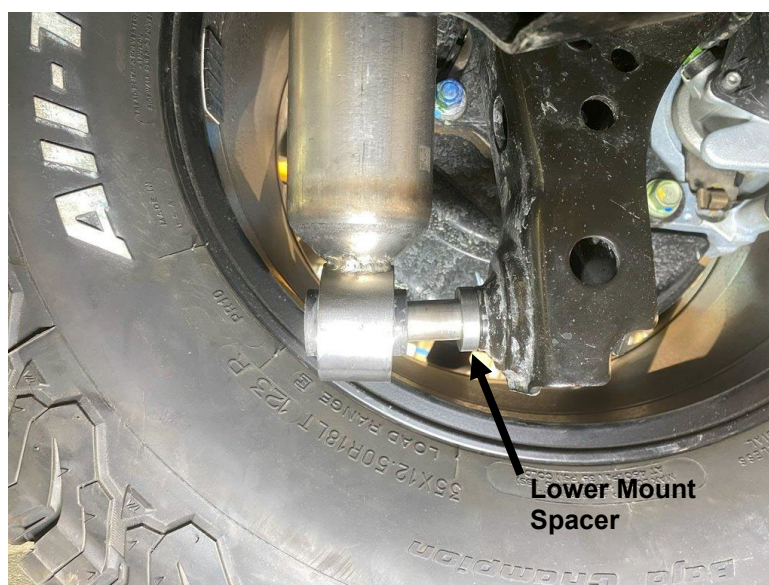

Figure 1: Lower Mount
- C. Install the supplied lower mount spacer (see Figure 1).